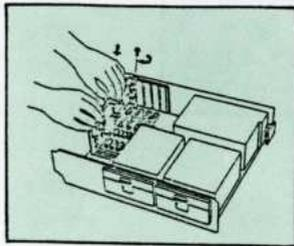

Fig5-2
4. Plug in the printer, display adapter or other peripherals into the I/O slots as shown in figure 5-2.